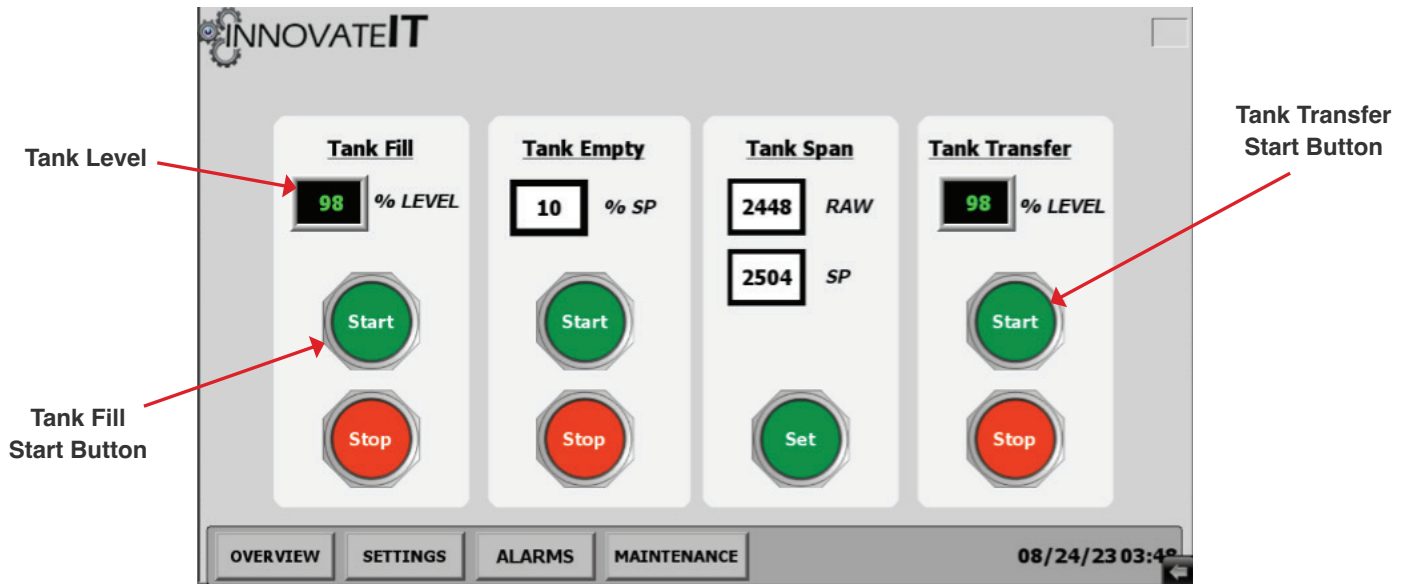

Fig. 4.1.4 - 1 - HMI Maintenance Screen and Tank Fill
3. Press the **START** on the **TANK FILL** (Fig. 4.1.4 - 1).
3. Once the solenoids are open, press **START** on the **TANK TRANSFER** (Fig. 4.1.4 - 1).